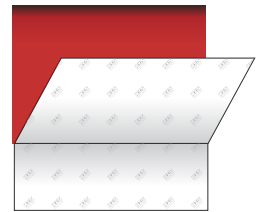

Figure05
- › Remove the top hinge and continue removing the liner, depending on the surface structure (cf. paragraphs below). (FIG. 05)